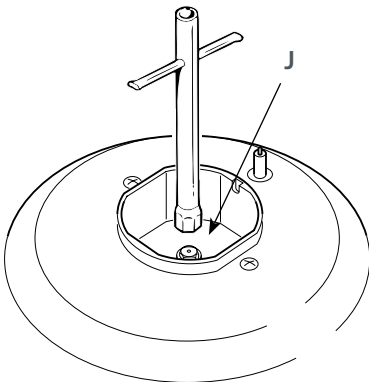

Fig. 7
- Using a spanner, remove the injector J (figs. 7, 8) and replace it with one according to the gas type (see “Table for the choice of injectors”).